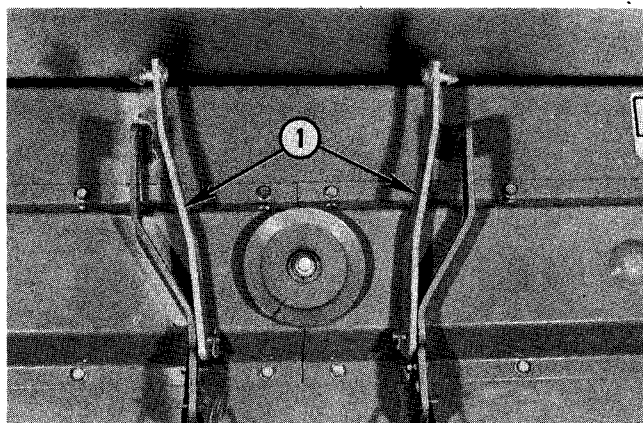

Fig. 40 — Rear Lift Link Installation
2. Install rear lift links on mower as shown in Figure 40.